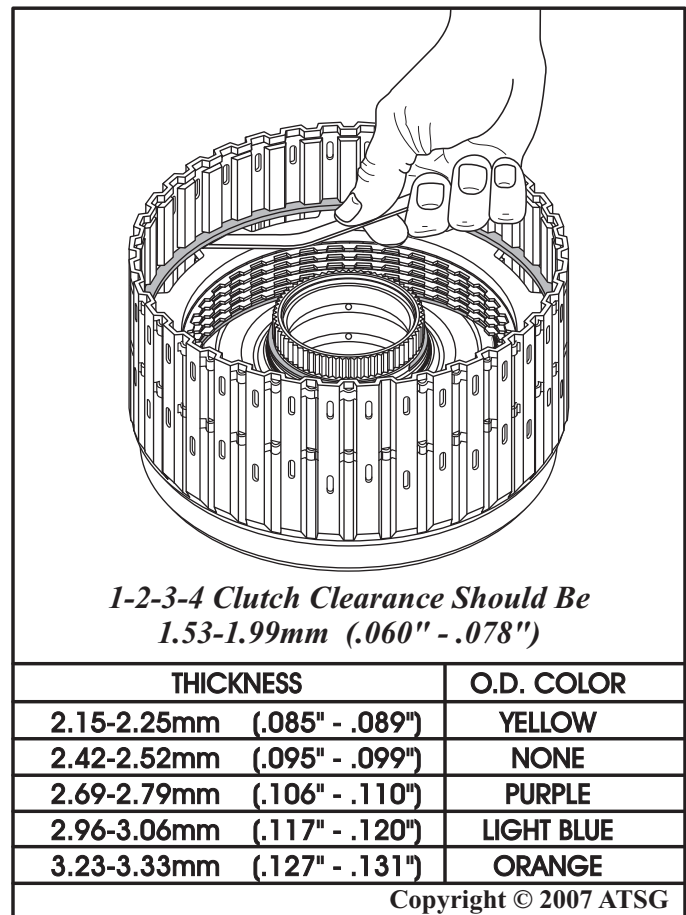

Figure 99
27. Check 1-2-3-4 clutch clearance using a feeler gage between the snap ring and backing plate, as shown in Figure 99.
28. Change the selective snap ring to achieve the proper clutch clearance using thickness chart and both are found in Figure 99.